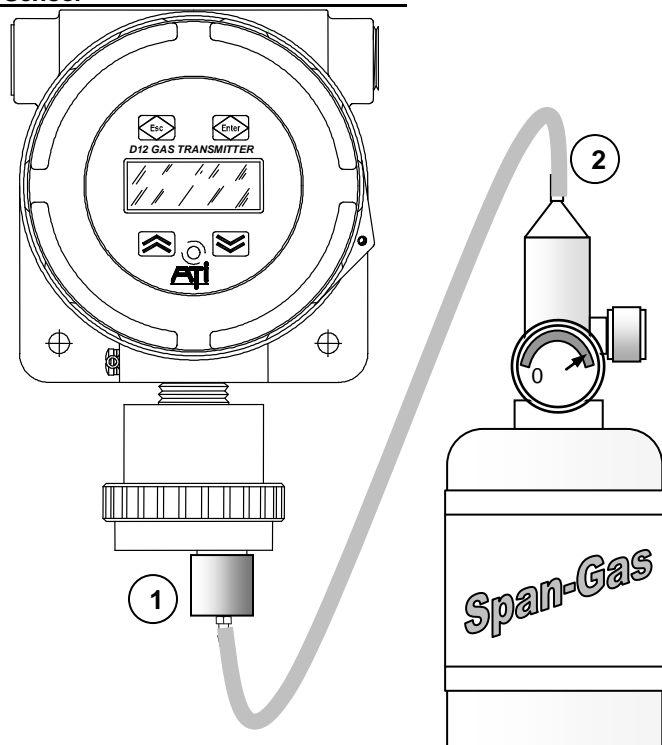

Figure 36 Span calibration
Referring to Figure 36, slip the calibration adapter onto the exposed end of the sensor and connect one end of the tubing (1), connect the other end of tubing to the cylinder’s regulator (2). Do not open the gas valve until instructed below.